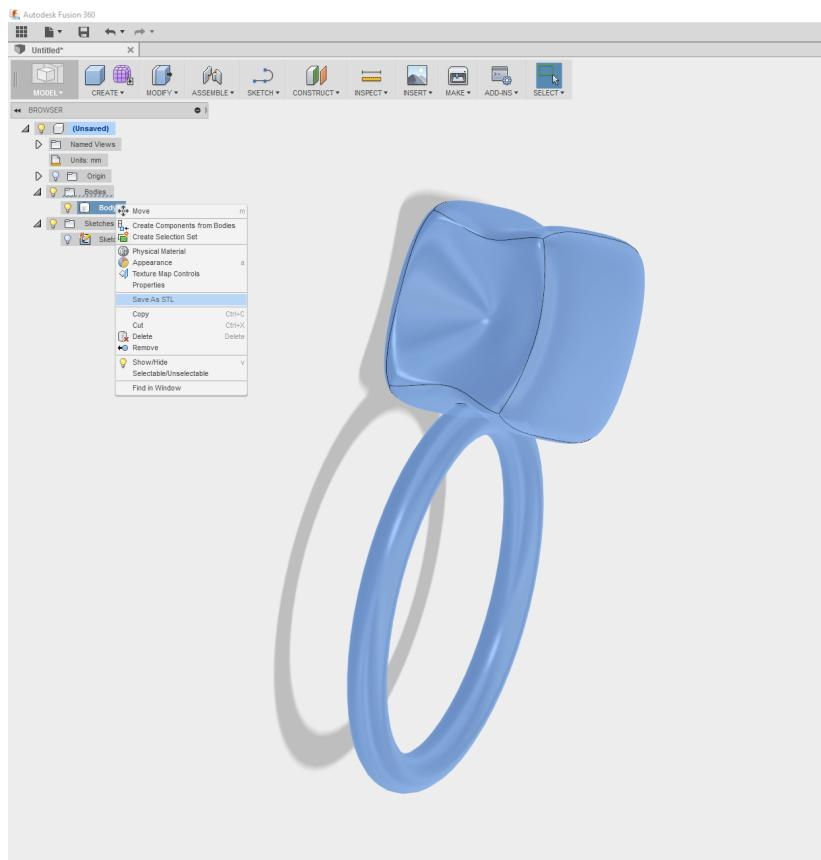

Figure 11-21. Selecting Save As STL on the combined body
29. Select the “Save As STL” option and select “High quality” as shown in Figure 11-21.